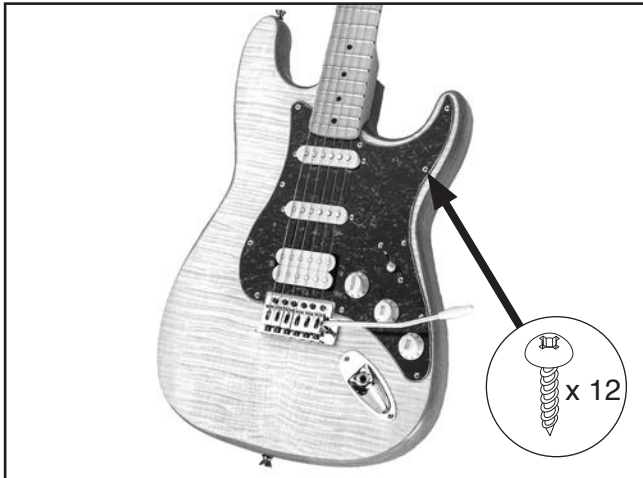

Figure 24. Pick guard installed on body.
1. Use a $\frac{3}{32}$ " drill bit to drill $\frac{5}{16}$ " deep holes through eleven holes in pick guard (see **Figure 24**).
3. Secure pick guard to guitar body with (19) M3 x 12 Phillips head screws (see **Figure 24**).